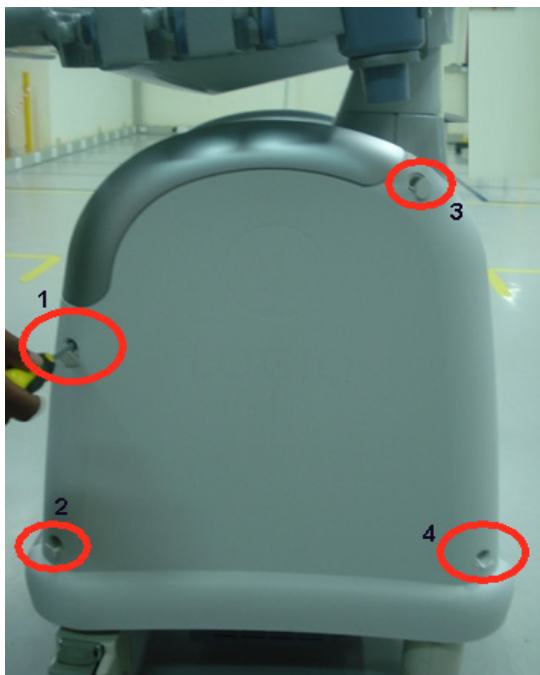

Figure 8-22 RH-side cover
3) Remove the RH-side cover four screws (1,2,3,4) of the system. Refer Figure 8-22 on page 8-27